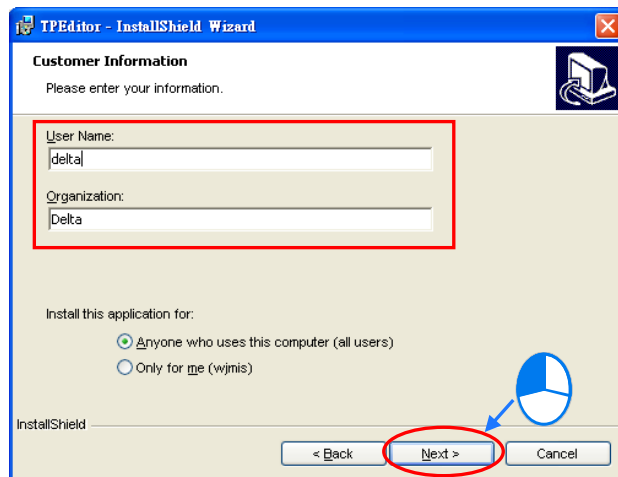

Figure 1-3 Process of installing TPEditor
(5) Type related information in the **User Name** box and the **Organization** box, and then click **Next**, as shown in Figure 1-3.